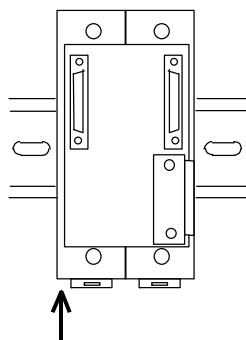

Figure 3
4. Slide the locking devices up to secure the mother block to the DIN rail. (Figure 3)